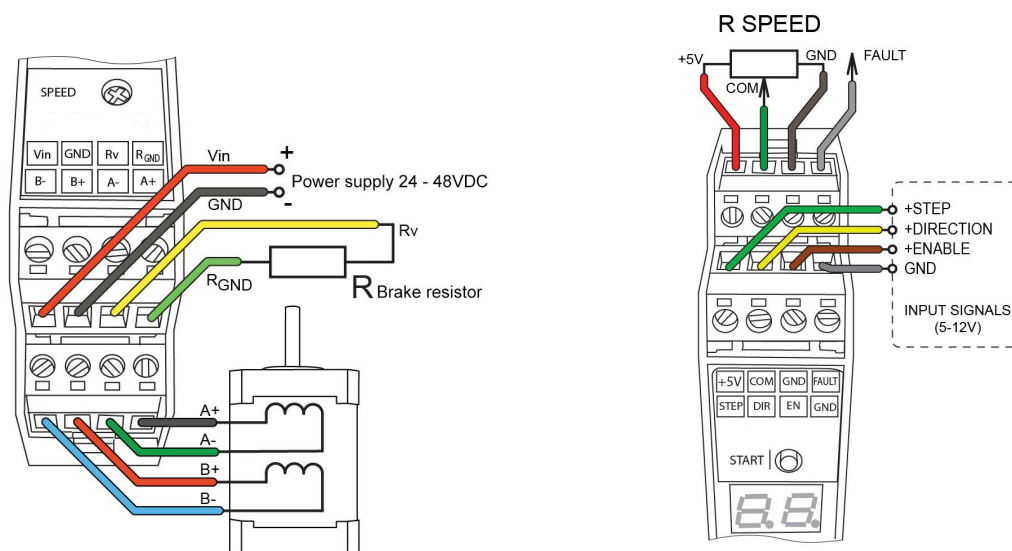

Fig. 1. Terminals of the stepmotor driver R202-42DIN
- connector A for a stepper motor phases connection (fig. 1);
- connector B for a power supply and external braking resistor connection (fig.1);
- connector C for connection of control signals STEP, DIR, ENABLE (fig.1);
- connector D for connection of an external potentiometer or source of analog signal 0...+5VDC – to analog speed or position control, and for connection of the output signal FAULT (fig.1);
- internal potentiometer SPEED for analog speed or position control (fig.1);
- 2-sign 7-segment display for indication of control modes, the driver state and alarm codes (fig.1);
In case of forced motor rotation at a speed 120...240 rpm (10 seconds average value at the desired interval from 0 to infinite), it is necessary to connect an external brake regenerative resistor $R=5\text{ Ohm}$ $P=100\text{W}$. The load resistor should be connected to the screw terminals «GND» and «RES BRAKE» (fig.1).